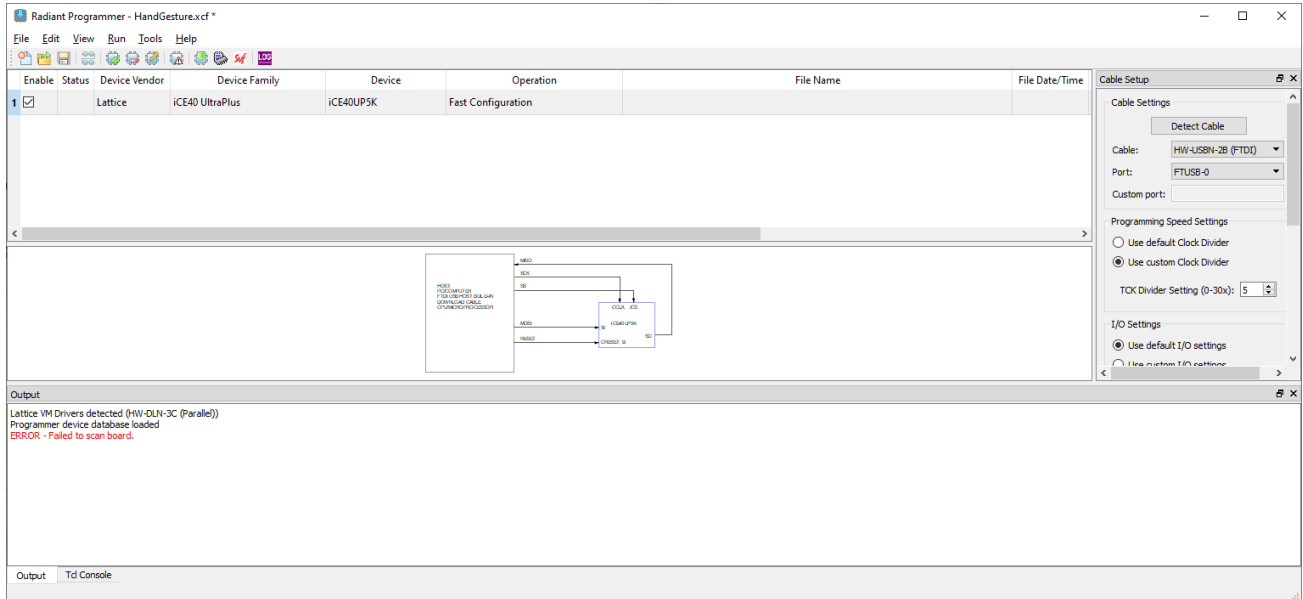

Figure 4.3. Radiant Programmer – Device Selection
- In the Radiant Programmer main interface, select **iCE40 UltraPlus** for **Device Family** and **iCE40UP5K** for **Device** as shown in Figure 4.3.